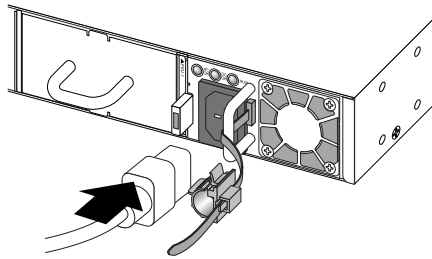

Figure 201: Connecting the Power Cord
- b. Connect the AC power cord to the input connector (see Figure 201).